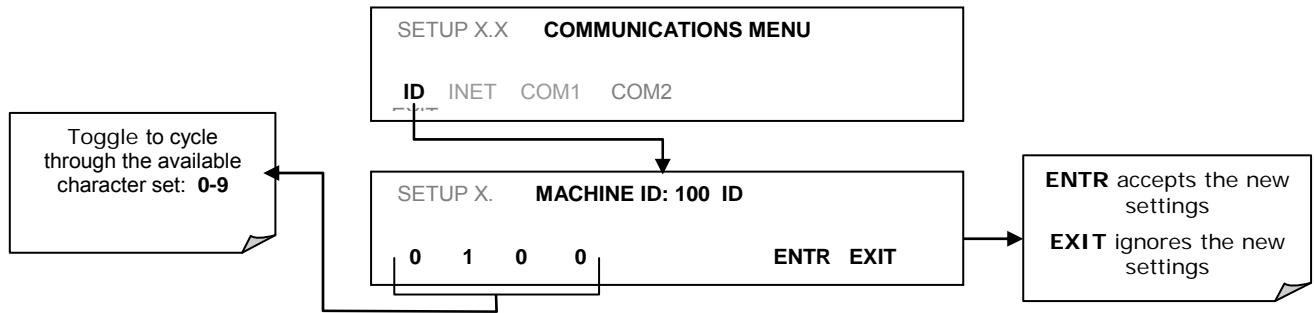

Figure 5-14: COMM – Machine ID
Press ID to display and/or change the Machine ID, which must be changed to a unique identifier (number) when more than one instrument of the same model is used in a multidrop configuration (0). The default ID is the same as the model number; for the Model 6400T, the ID is 0100. Press any button(s) in the MACHINE ID menu (Figure 5-14) until the Machine ID Parameter field displays the desired identifier.